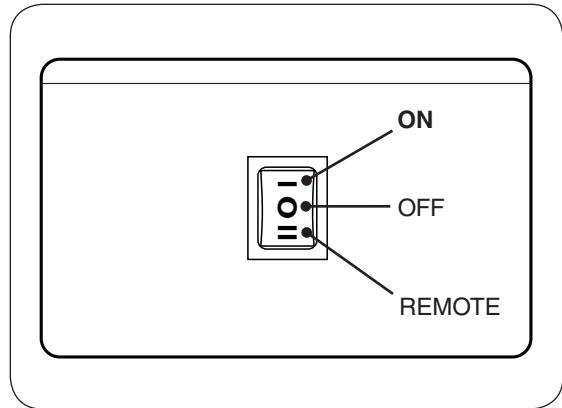

Fig. 12-1 Switch box, switch detail
1. Locate the 3-position switch on the switch box (see Fig. 12-1). Press the switch up to the **ON** position.